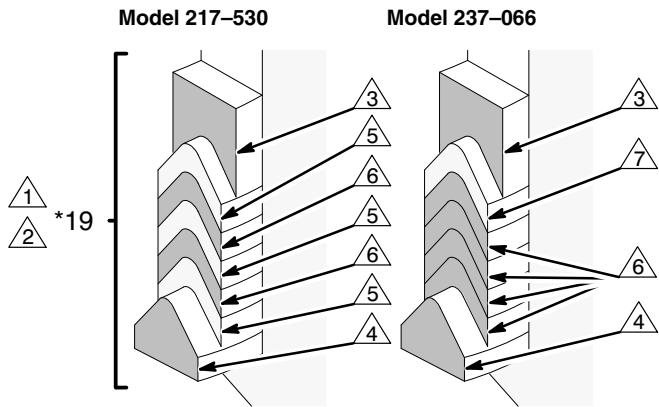
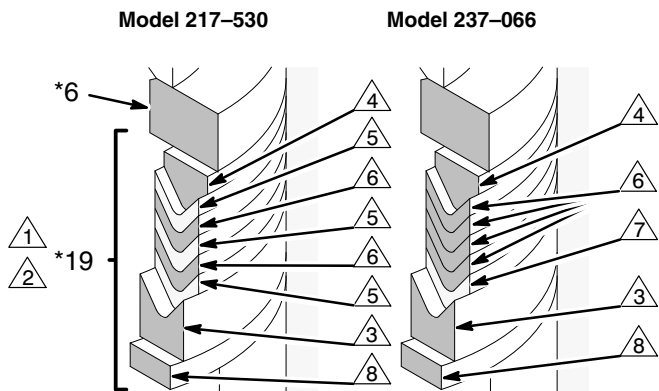

Fig. 2
Fig. 3
1. Remove the shims from one of the repair kit's packing stacks (19\*). Lubricate the stack and install it in the throat of the pump outlet housing (16). *Be sure the lips of the v-packings face down in the throat.* See Fig. 2. Loosely install the packing nut/wet-cup (14).
2. Reinstall the sleeve (10) if it was removed, making sure to replace the gasket (5\*). *Be sure the tapered end of the sleeve faces down toward the pump inlet.*
3. Lubricate the other packing stack (19\*) and install it on the piston (15). **Do not** remove the shims from the stack. *Be sure the lips of the v-packings face up on the piston.* Install the retainer (6\*) and ball (1\*). See Fig. 3.